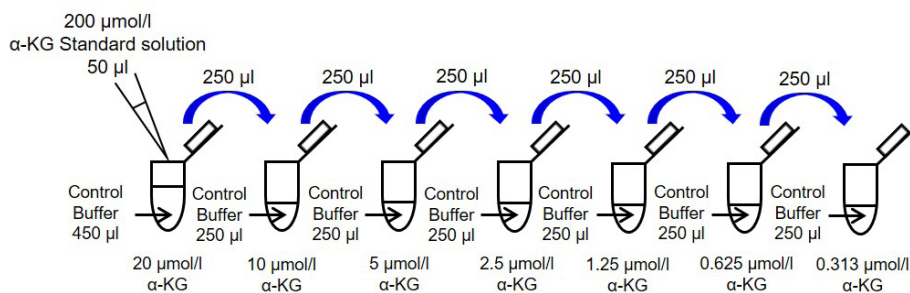

Figure 3. Preparation of α -ketoglutarate (α -KG) standard solutions
- Mix 50 μl α -KG Standard solution (200 $\mu\text{mol/l}$) and 450 μl Control Buffer in a microtube to prepare an α -KG Standard solution (20 $\mu\text{mol/l}$). Serially dilute the solution with Control Buffer to prepare solutions of 20, 10, 5, 2.5, 1.25, 0.625, 0.313, 0 $\mu\text{mol/l}$ (Figure 3).